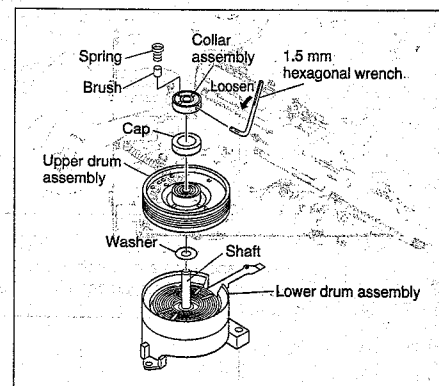

Fig. 2-2-39 Upper drum assembly-1
- (2) Install a new washer and upper drum assembly on the drum shaft. (See Fig. 2-2-39)